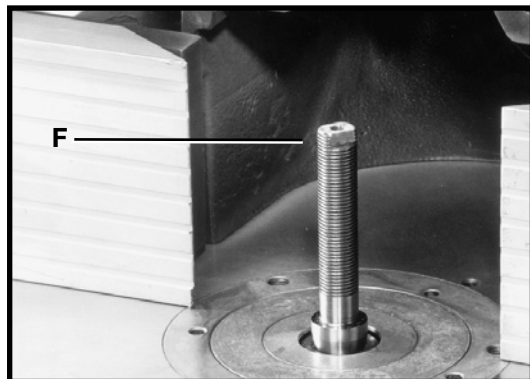
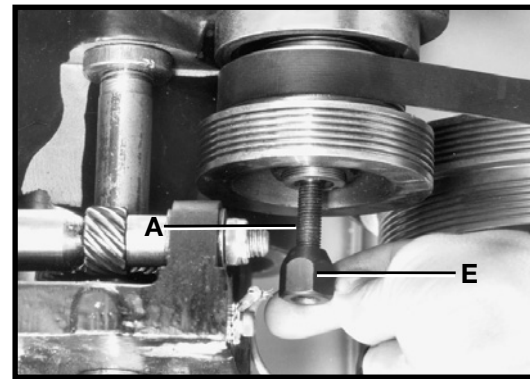

Fig. 11
Fig. 12
4. Use a wrench on the flats (F) Fig. 11 to hold the spindle while tightening the nut (E) Fig. 12 on the bottom of the tie rod.